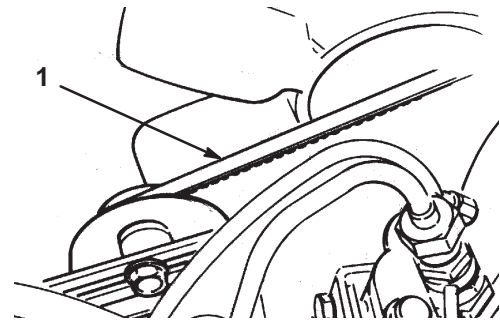

Figure 57
2. Adjust the belt (Fig. 57) to the proper tension and tighten the bolts.